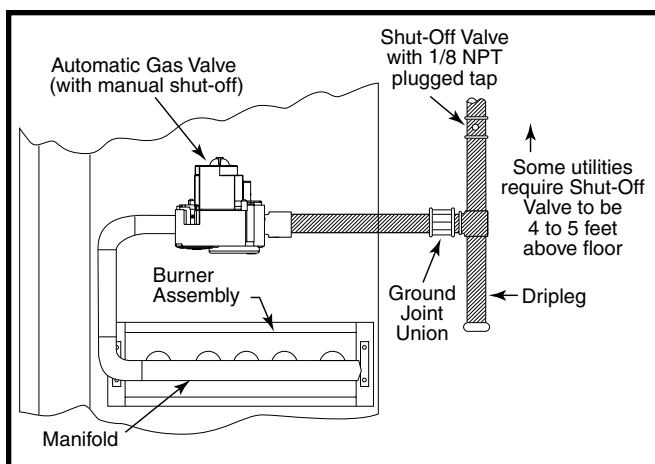

Figure 9. Typical Gas Hookup - Right Side Entry
- Some local codes require the installation of a manual main shut-off valve and ground joint union external to the furnace (Figure 9). The shut-off valve should be readily accessible for service and/or emergency use. Consult the local utility or gas supplier for additional requirements regarding placement of the manual main gas shut-off. See Figure 9 (page 17).
- A drip leg should be installed in the vertical pipe run to the unit. See Figure 9.
This unit only has right side gas entry. When connecting the gas, provide clearance between the gas supply line and the entry hole in the unit's casing to avoid unwanted noise and/or damage to the unit. A typical gas service hookup is shown in Figure 9.